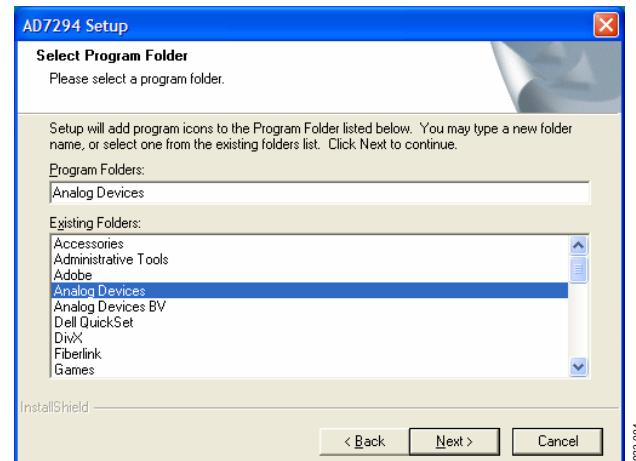
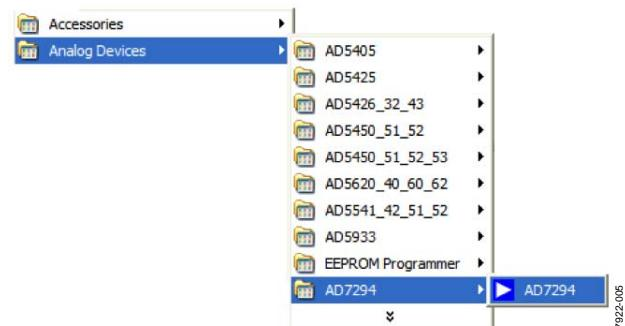

Figure 4. AD7294 Setup, Select Program Folder Window
Figure 5. Add the Program Icon
4. Choose **Analog Devices** from the **Select Program Folder** window (see Figure 4). If the Analog Devices folder does not yet exist, create a folder called **Analog Devices** and add the program icon to this new folder (see Figure 5).